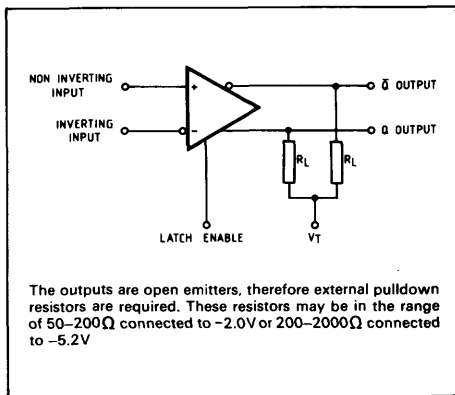

Fig. 2 Functional diagram
- $R_L = 50\Omega; V_T = -2.0V$  (See Fig.2)